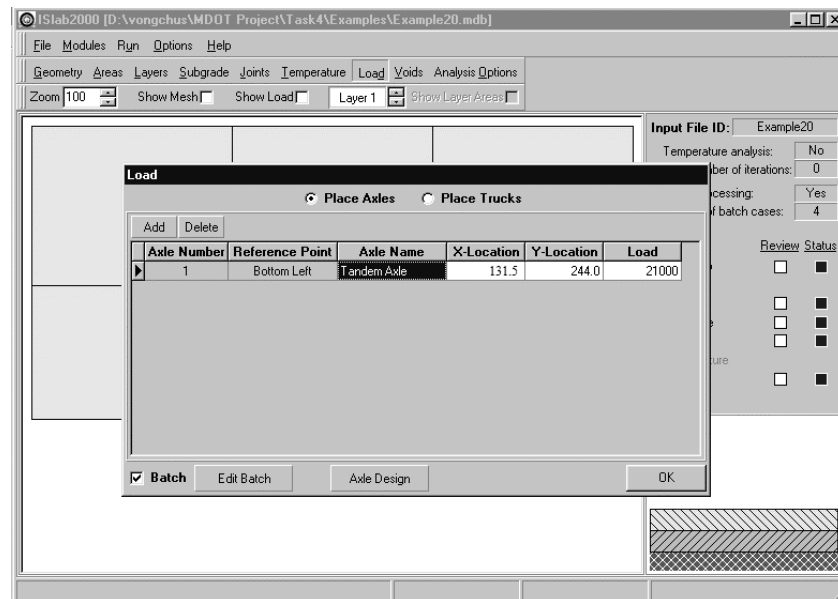

Figure E20-3: Edit Inputs for the Load Module (continued)
- Step 8: On the load panel, click **Add** to add a load (see Figure E20-3).